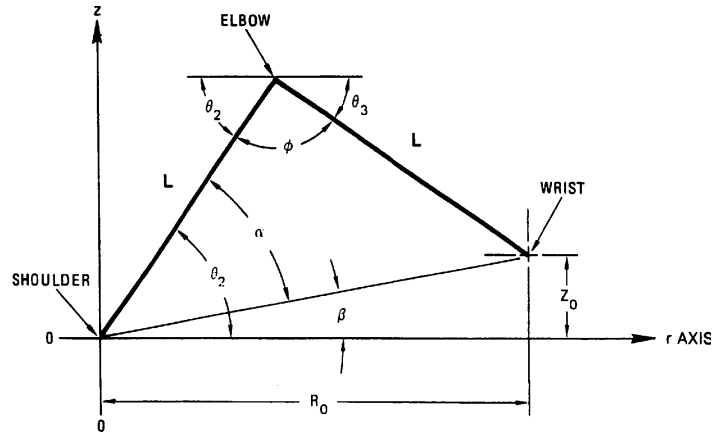

Figure B-4 Partial robot arm geometry - from shoulder to wrist
Now let us define the shoulder-elbow-wrist triangle so that θ_2 and θ_3 can be determined. For this purpose, the translated coordinate system introduced in figure B-4 is used. The origin (0, 0) is at the shoulder and the coordinates of the wrist are now (R_0 , Z_0). The distance from the shoulder to the wrist, R_0 , is the same as R_w previously determined in Equation (14):
The last two joint angles θ_2 and θ_3 involve the shoulder-elbow-wrist triangle, shown in figure B-4. Three new angles, α , β , and ϕ , are introduced to simplify the solution of angles θ_2 and θ_3 . Let us now find expressions for α , β , and ϕ .
Now we can use α and β to determine θ_2 and θ_3 . The following three relations are first set up and then solved. At the shoulder (see figure B-4),